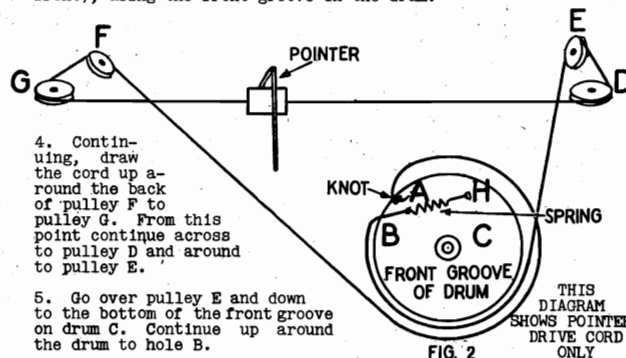

FIG. 2
2. Thread the free end of the cord through hole A in drum C (threading from the inside of the drum out) See Fig. 2.